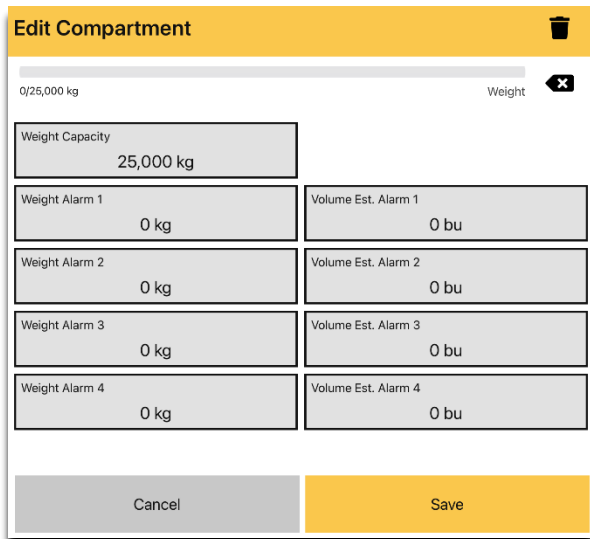

Figure 142 Edit Compartment
11. If needed, you can click on the compartment to adjust the weight and weight alarms. Press **Save** when done. See Figure 142 below.